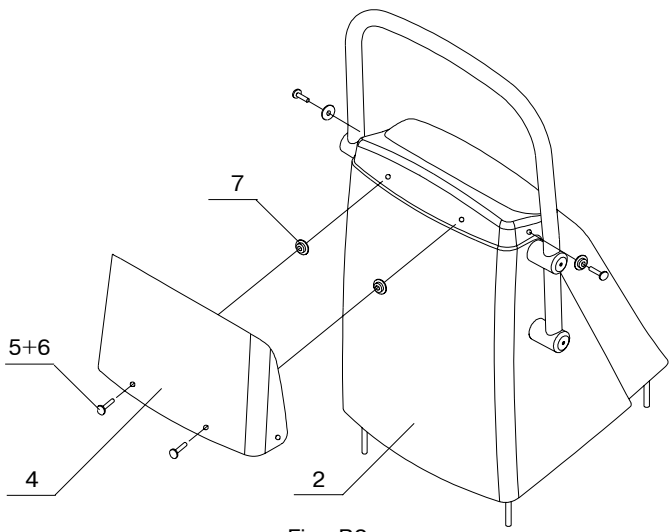

Fig. B2
3. Install windglass 4 on the upper part of the console body 1 with the help of bolts 5 (M6x40), polyethylene washers 6 and 7, washers 8, arrester washers 9 and nuts 10 (M6) (See Fig.B2,B3). Tighten all the nuts.